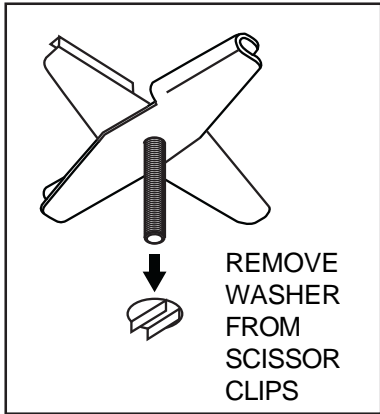

FIG. 4.1
4 Remove washer from scissor clips (H) as shown in figure 4.1.